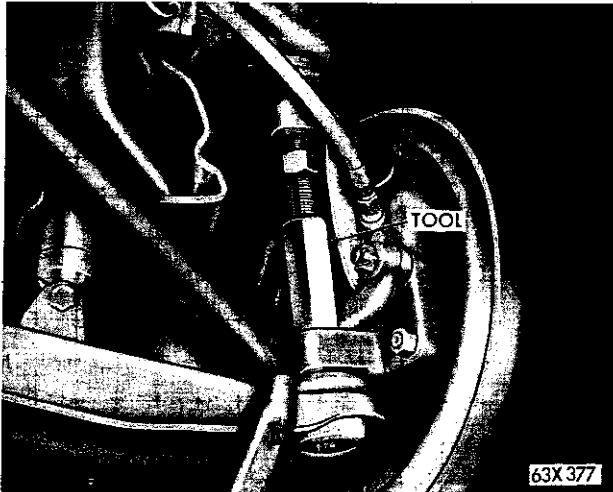

Fig. 7—Removing Upper Ball Joint from Knuckle
threaded portion of the tool locking it securely against the upper stud (Fig. 7). Spread the tool enough to place the upper stud under pressure, then strike the steering knuckle sharply with a hammer to loosen the stud. **Do not attempt to force the stud out of the knuckle with the tool alone.**
(1) Place a jack under the lower control arm as close to the wheel as possible. Raise the jack until the front wheel clears the floor.
(2) Remove the wheel and tire assembly.
(3) Remove the upper and lower ball joint stud nuts. Slide the Tool C-3564 down over the lower stud until the tool rests on the steering knuckle. Turn the threaded portion of the tool locking it securely against the upper stud (Fig. 7). Spread the tool enough to place the upper stud under pressure then strike the knuckle sharply with a hammer to loosen the stud. Do not attempt to force the stud out of the knuckle with the tool alone.
(4) Remove the tool, then disengage the ball joint from the knuckle.
(5) Remove the nuts, lockwashers and bolts attaching the upper control arm bushings to the front and rear support. Lift the upper control arm up and away from the support.